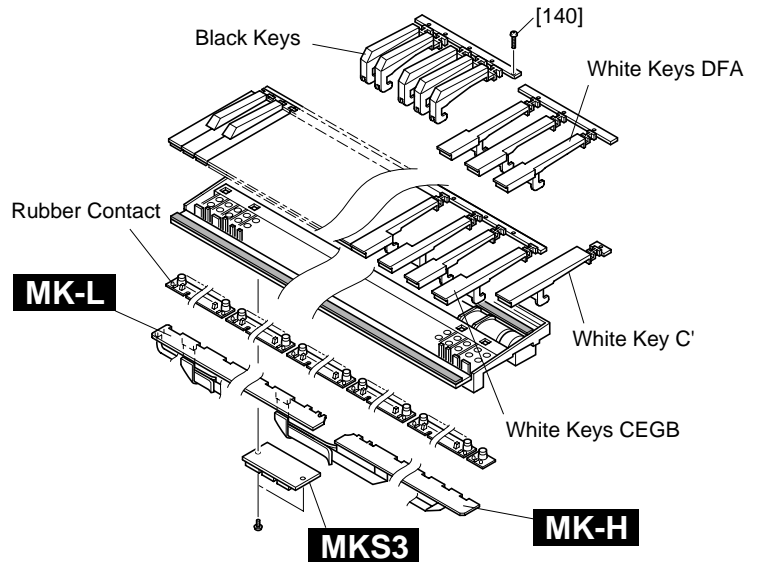

Fig.8
- 9-4 Remove the twenty-one (21) screws marked [140], then remove the black keys from the lower notes. Afterwards, remove the white keys DFA and C' and then remove the white keys CEGB from the higher notes. At this time, lift the keys from the front and slide them towards you. The keys can then be removed from the assembly. (Fig.8)
- 10-1 Install the white keys CEGB from the lower notes, and then install the DFA keys and C' key. Afterwards install the black keys from the higher notes, and tighten the twenty-one (21) screws marked [140]. (Fig.8)